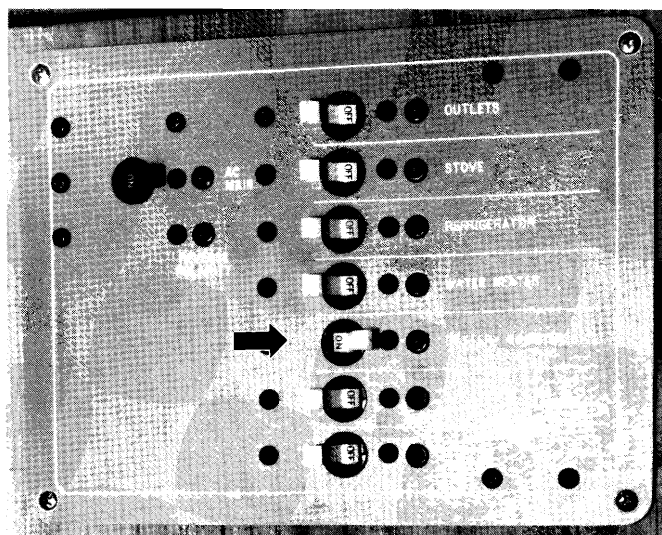

Figure 26
3. Put the "Battery Charger" switch in the "On" position. See figure 26.